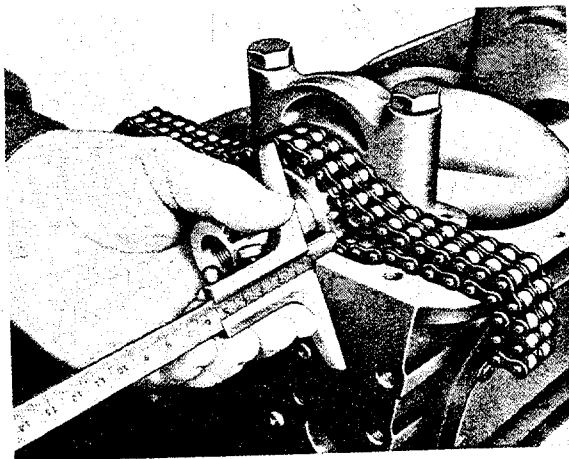

Fig. M 3/51
Note: In the engine for Type 220 the lock plate for the 2nd crankshaft bearing cap is provided with a strap for fastening the clamp on the oil pump suction pipe. Do not interchange the lock plates (see Fig. M 3/56).
51. Check alignment of sprockets (crankshaft sprocket – intermediate gear) by measuring the distance from front end of cylinder crankcase to crankshaft sprocket and to intermediate gear with a depth gauge or micrometer (Fig. M 3/51).
The permissible out of alignment of the sprockets is 0.1 mm (0.004"). If this value is exceeded, exchange adjusting ring beyond the crankshaft sprocket (see Fig. M 3/53). To pull the crankshaft sprocket, use tool 187 589 00 33 (see Fig. M 3/36).